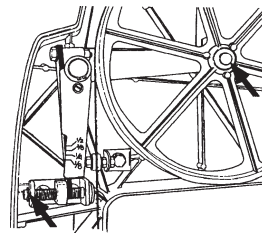

Fig. C-7
- blade tensioning screw-Fig. C-7
Grease the needle bearings in the upper wheel. The upper wheel is held on the shaft by a retaining ring. Remove this ring with a small blade screwdriver, gently lifting it out of its groove. (See Fig. C-7.) Remove the fiber washer and pull the wheel from the shaft. Wipe the shaft with a clean rag to remove any dirt or dust, then grease the bearings inside the hub. Use cup grease or furnace bearing grease.